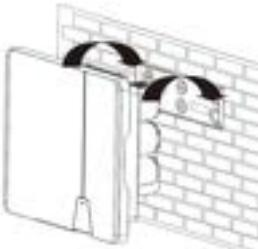

Fig. 6: Mounting the inverter to the wall bracket
- 2 Hook the device into the mounting plate (see Fig. 6 and Fig. 8.2 – Pos 1.) and check that it is securely seated.